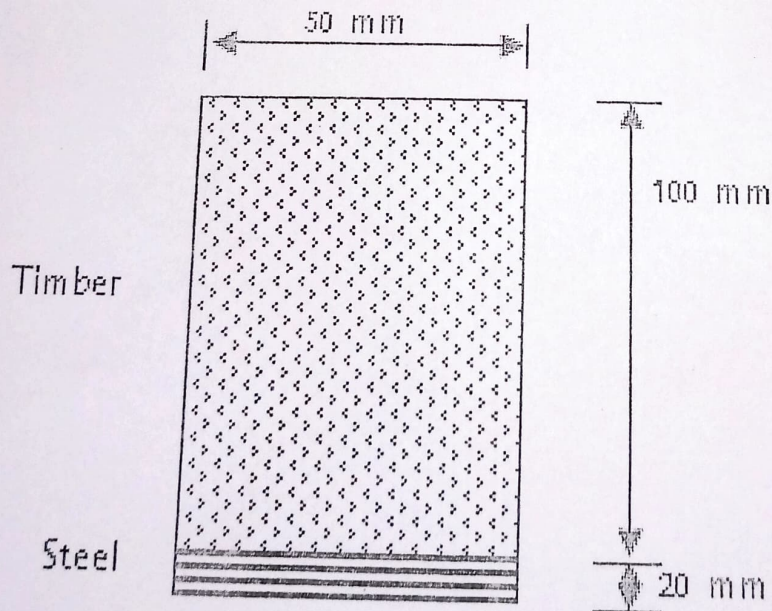

Figure 5
- b) A rectangular timber beam section is 50 mm wide and 100 mm deep. It is reinforced with a steel plate 20 mm thick at the bottom as shown in Figure 5 and loaded with a moment of 10 kNm. If E for timber is 11 GPa and for steel is 205 GPa, calculate the maximum stress in: